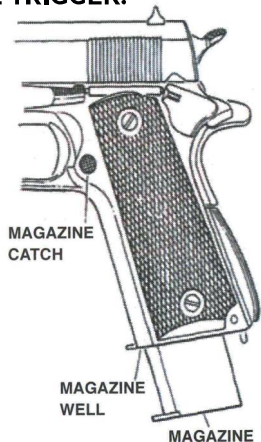

FIGURE 4 - MAGAZINE PARTIALLY INSERTED
2.Remove magazine from pistol. Place your hand under magazine to prevent it from falling. Press magazine catch (located on left side of pistol behind trigger guard) to drop the magazine out of the magazine well (See Figure 4).